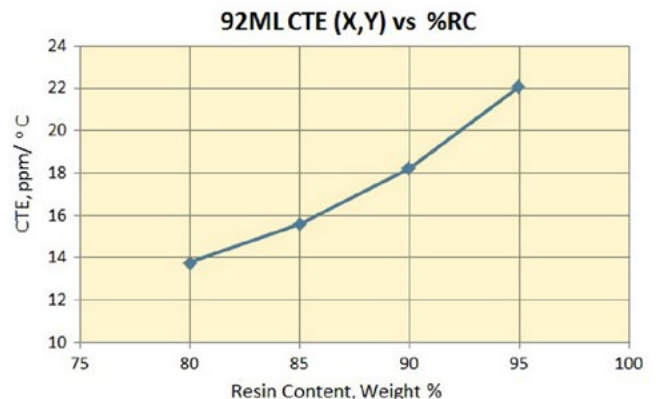

Figure 5.
2. Thermally conductive epoxy (92ML resin / E-Glass reinforcement) at 1 MHz (Figure 5 and 6).